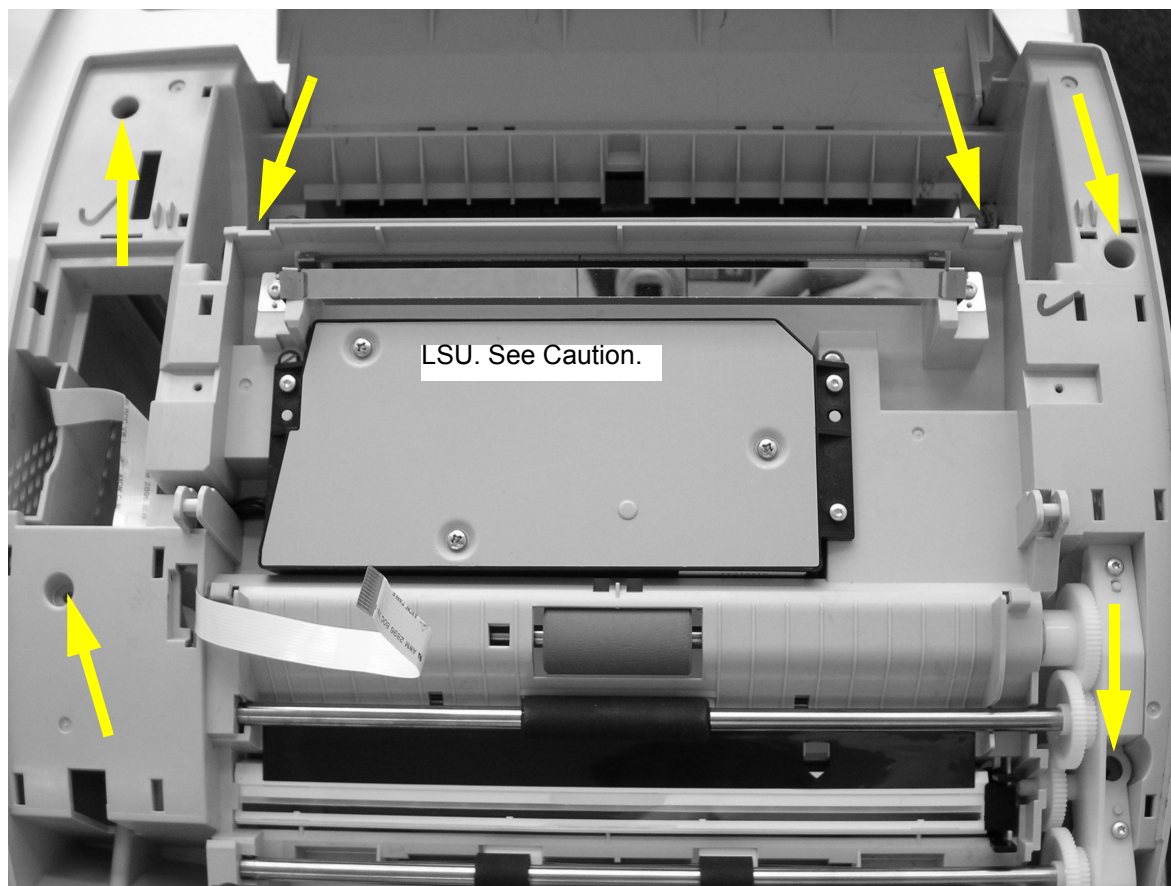

Figure 4
1. Remove the 4 screws (see Figure 4), and 2 screws inside the machine (under the print cartridge).